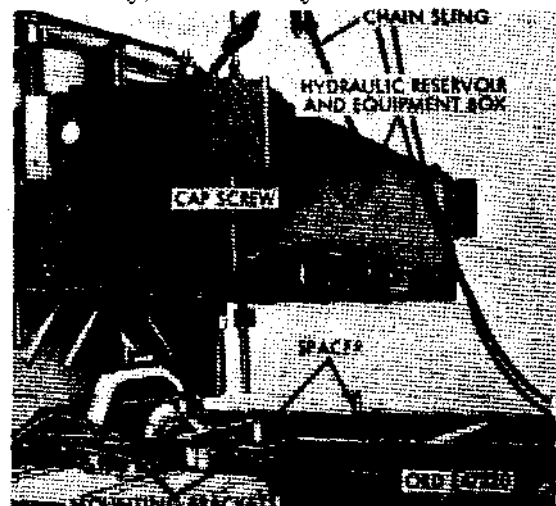

Figure 432. Removing hydraulic reservoir and equipment box (M62)
- (4) Attach a chain sling (fig. 432) and overhead hoisting equipment to reservoir, and lift reservoir from mounting brackets and remove from vehicle.
Note. Be careful not to lose spacers (fig. 432).
- (5) Remove four cap screws (fig. 432), two at each end, from reservoir.
- (1) Insert four cap screws (fig. 432), two at each end, in holes in reservoir and equipment box.
- (2) Make sure that spacers (fig. 432) are in position on mounting brackets and, using chain sling and -hoist, position hydraulic reservoir and equipment box on brackets.